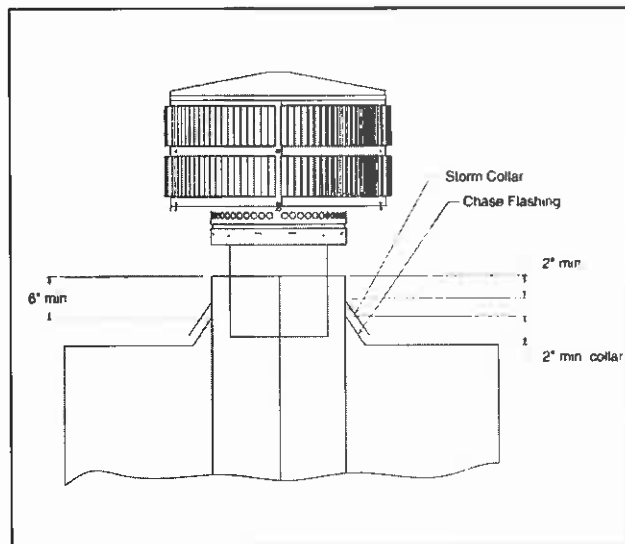

Figure 22 - Installing a TR344 Round Termination Cap
- Install the chimney sections up through the chase enclosure. When using a TR344 round termination cap, the uppermost top section of pipe must extend 6" above the top of the chase collar to allow installation of the storm collar and termination cap. See Figure 22.